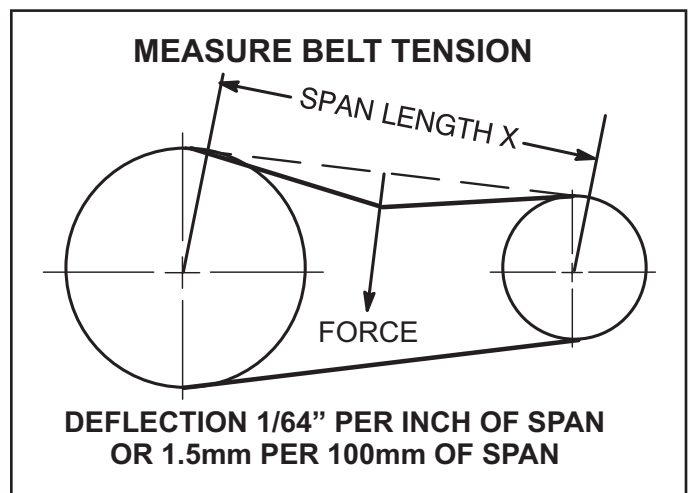

FIGURE 21
- 1 - Measure span length X. See FIGURE 21.
- 2 - Apply perpendicular force to center of span (X) with enough pressure to deflect belt 1/64" for every inch of span length or 1.5mm per 100mm of span length.